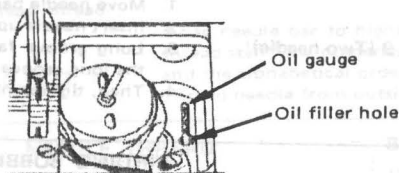

Fig. 3
2. Oiling for hook mechanism: Open slide plate on bed and pull out oil gauge. Fill oil into reservoir for hook mechanism up to level reference mark on the gauge. (Fig. 3)